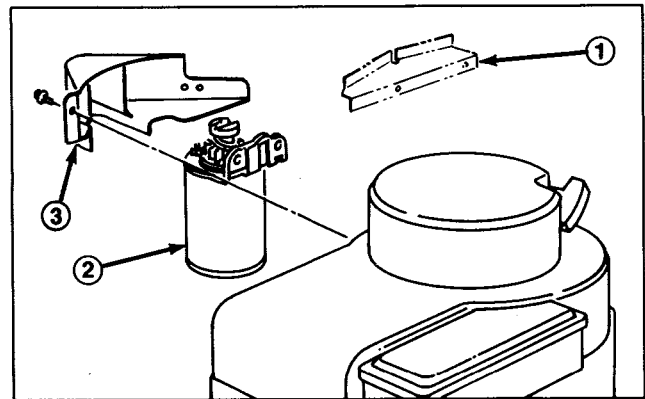

Figure 2
1. Remove screws and lockwashers (2) securing ring guard to left side of engine (Fig. 2).
2. Using original fasteners, mount starter motor to engine (Fig. 2).
3. Using (2) screws, install new motor cover to engine (Fig. 2).
**Note:** Two motor covers are supplied. Model 103's use the cover with one mounting hole on each end and a half-moon cutout at the lower center; Model 111's use the cover with two mounting holes on one end, one mounting hole on the opposite end and no half-moon cutout (Fig. 2).